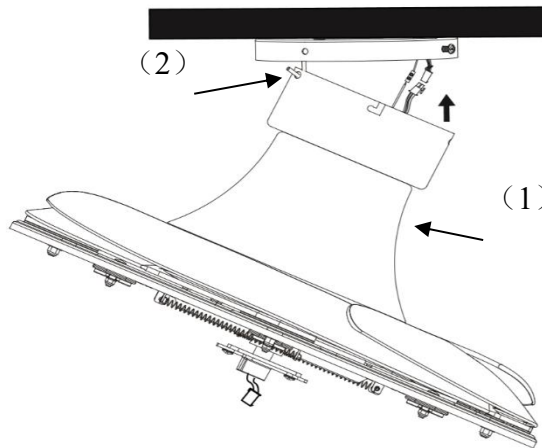

Fig. 3
- Lift the fan assembly (1) up to the mounting bracket. Hang the fan assembly onto the J-hook (2) of the mounting bracket. (Fig.3)